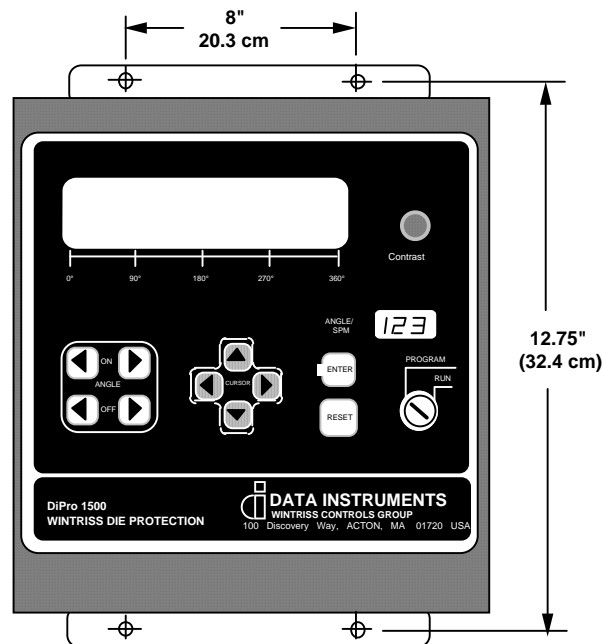

Figure 2-2. DiPro mounting dimensions (for control enclosure)
2. Drill holes for mounting (see dimensions in Figure 2-2). Shockmount studs are 1/4–20. Tap holes (if necessary) and mount the enclosure using the enclosed shock mounts. Use a No. 7 drill and 1/4–20 tap.